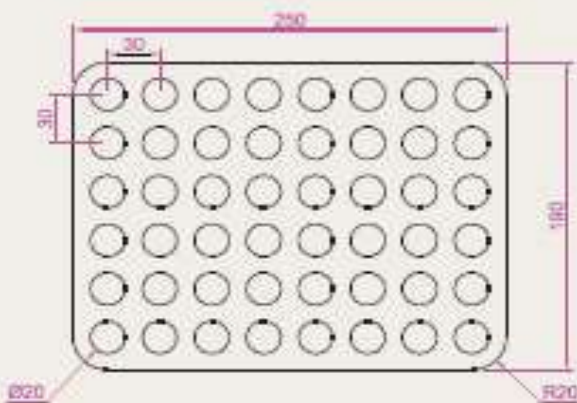

Fig. 5.47 Exercise 2
2. Construct the drawing given in Fig. 5.47. All parts of the drawing are plines of width — 0.7. The setting in the **Array** dialog is to be 180 in the **Angle of array** field.